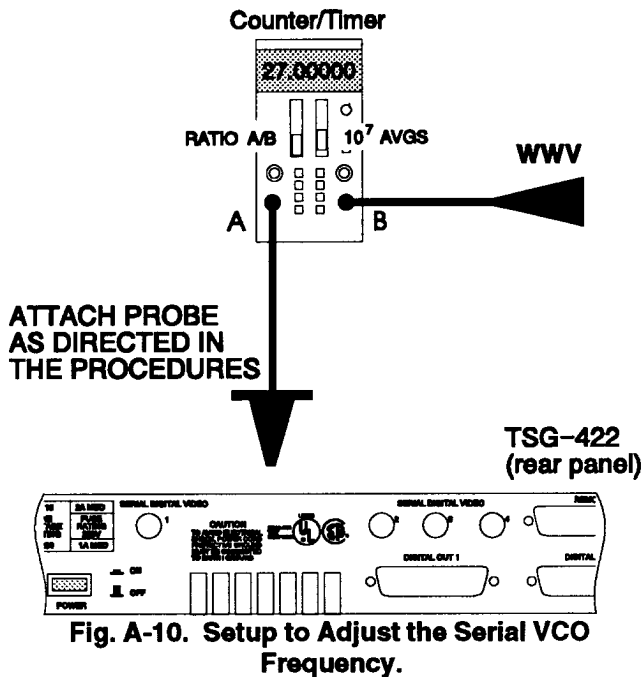

Fig. A-10. Setup to Adjust the Serial VCO Frequency.
- Connect the equipment as shown in Fig. A-10, connecting the A probe to TP1.
- Connect the equipment as shown in Fig. A-10, connecting the A probe to TP101.